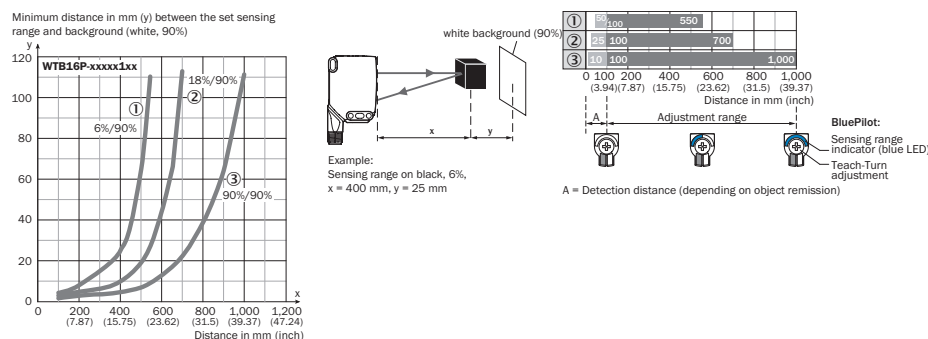

Figure 3: Characteristic line 1, WTB16P-xxxxx1xx, red light
The minimum distance (= y) for the background suppression can be determined from the diagram [figure 3 ①] as follows: